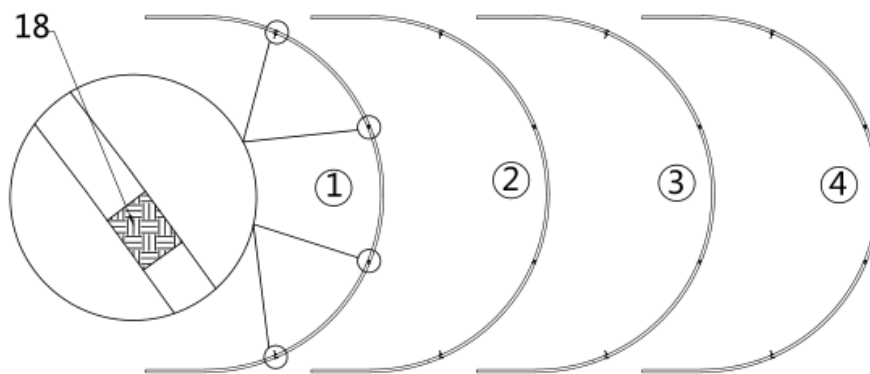

Figure 3
- Lay down all (4) trusses on the ground when the assembly is all completed and before moving to next step, and then wrap (#18) around the sharp points of the joint to avoid friction between the fabric and the interface, resulting in fabric damage.(refer to figure 3)